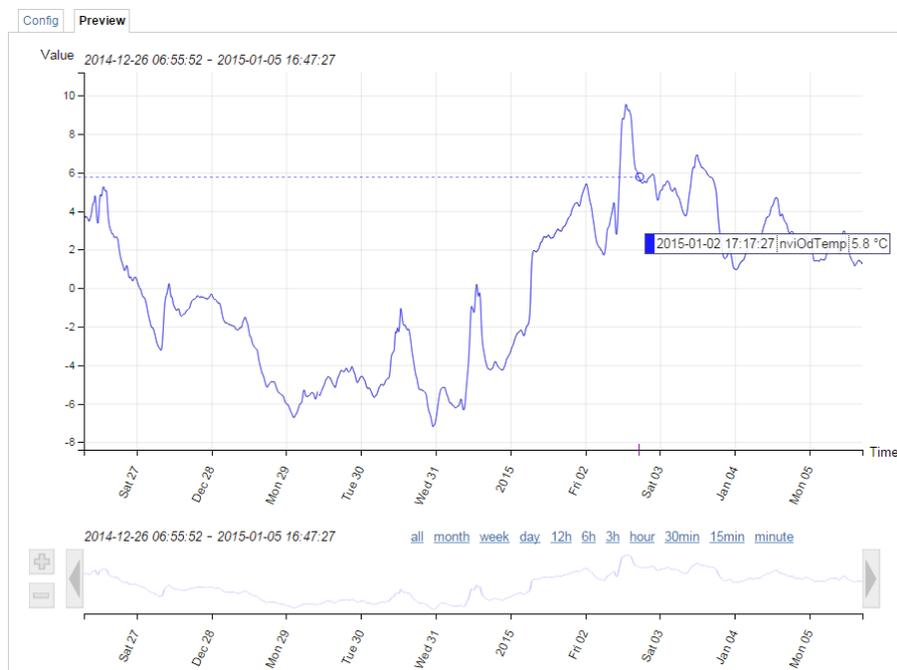

Figure 9: New trend chart on the Web UI
- The trend log configuration on the Web UI now also provides a preview tab, which shows a chart of the trend log data. The trend chart allows zoom, scrolling and hiding specific data curves, as shown in Figure 9.